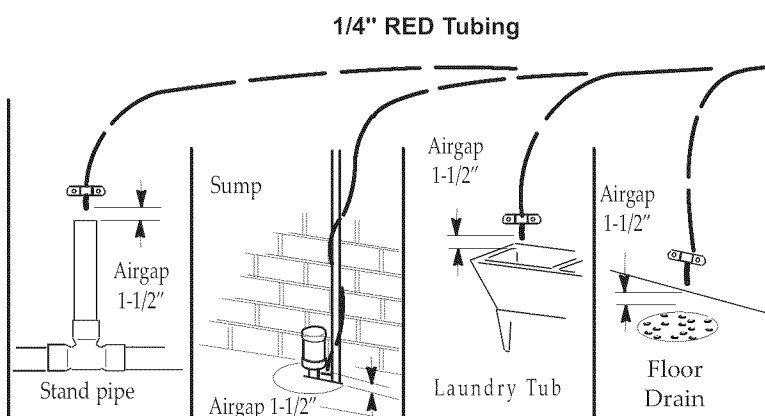

Figure 10
You can also run the drain tubing to an existing drain in the house. A floor drain, laundry tub, standpipe, sump, etc. are suitable drain points. See Figure 10. This type of drain is the preferred over the p-trap drain adapter. Check your local codes. Longer lengths of tubing (see parts list in back of manual) may be needed.
4. Run the tubing to the drain point and secure at the end with a bracket (purchased locally). See Figure 10. Provide a 1-1/2" air gap between the end of the tube and the drain. See Figure 10.